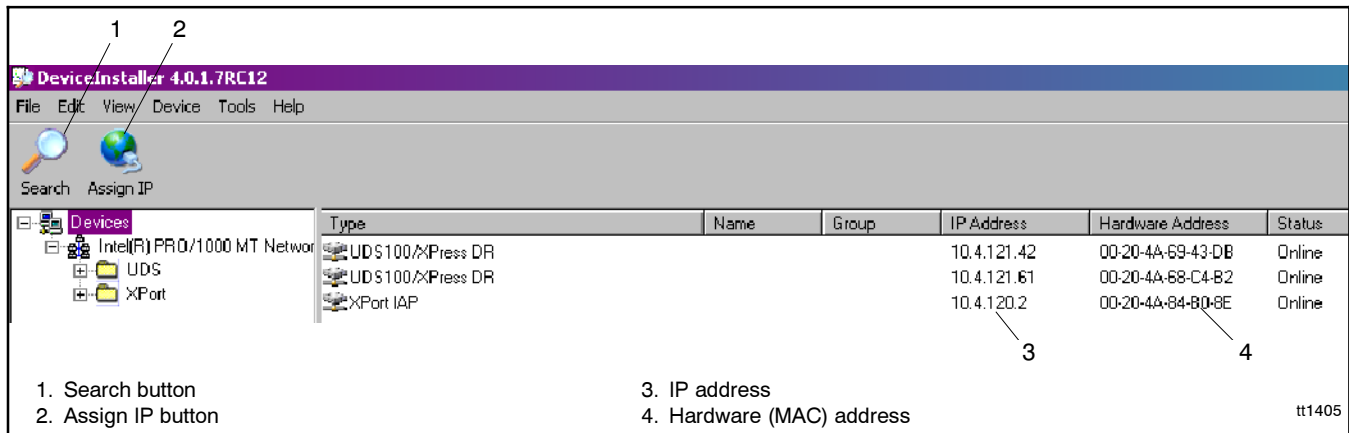

Figure 29 DeviceInstaller Opening Screen
3. Click the button labeled *Search* on the left side of the DeviceInstaller toolbar. It has a picture of a magnifying glass. See Figure 29.
- b. Click the button labeled *Assign IP* in the DeviceInstaller toolbar. It has a picture of a globe with a plug in it. See Figure 29.
- a. Click once on the line of the device to be changed. It should become highlighted. See Figure 29. If you accidentally double-click a dialog box will appear. Click the *Cancel* button to close it.